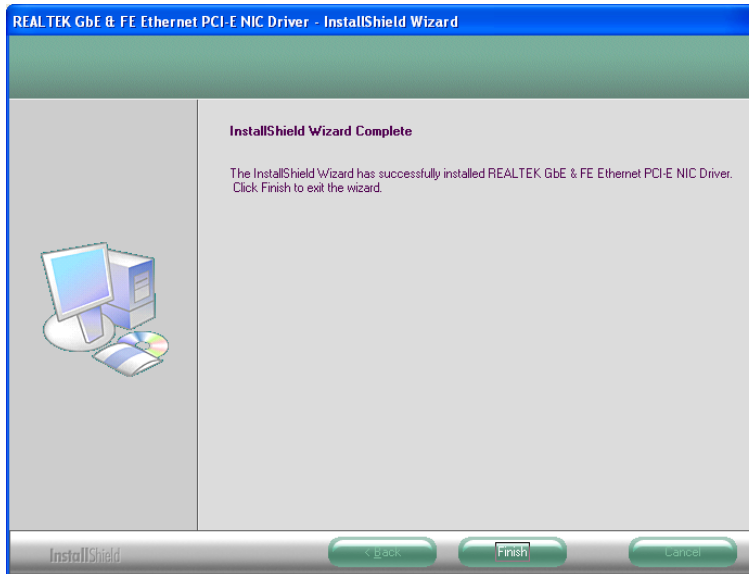

Figure 6-18: LAN Driver Installation Complete
Step 9: When the driver installation is complete, the screen in Figure 6-18 appears.